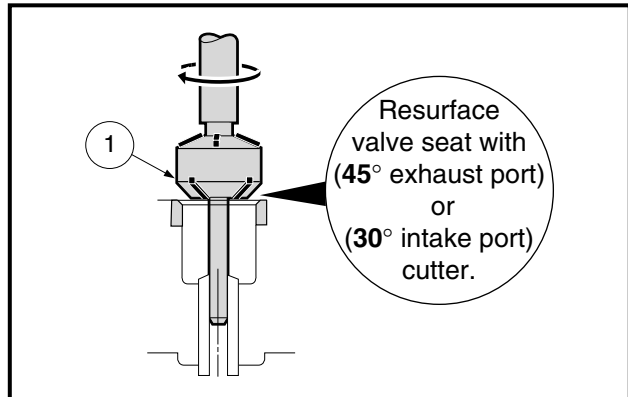

Figure 13-26 Resurfacing Valve Seat
2. Recondition the valve seats with the valve seat cutters (45° x 35 mm, 30° x 35 mm) and lap the valves (**Figure 13-26, Page 13-16**).
- 2.3. If the seat width is more than 0.079 inch (2.0 mm), the seating surface should be resurfaced (**Figure 13-26, Page 13-16**).
- 2.4. Resurface the valve seat with a 45° (exhaust port) or a 30° (intake port) cutter (CCI P/N 101655401), removing only enough material to produce a smooth and concentric seat (**Figure 13-26, Page 13-16**).